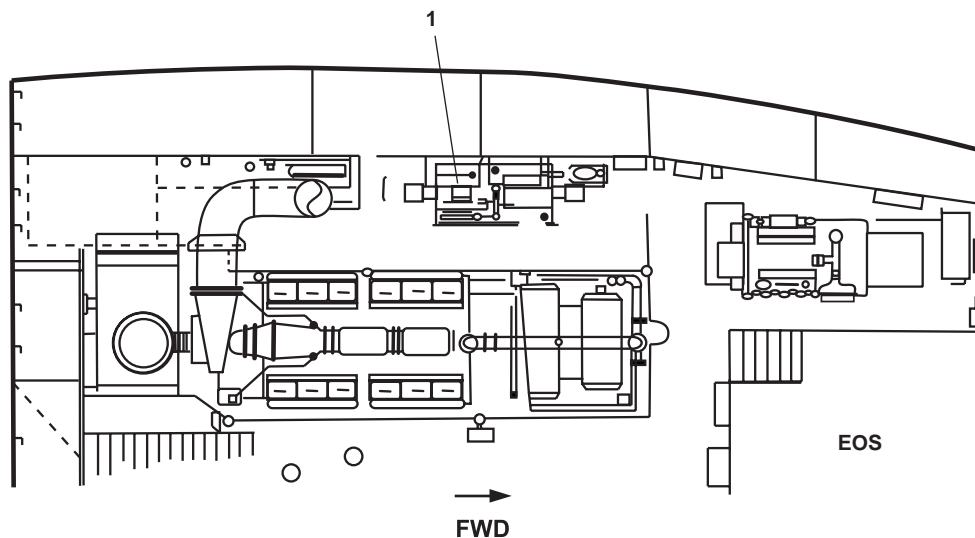

Figure 3. Deck Machinery and Hydraulic System Components, Engine Room
1. Central Hydraulic Power Unit (figure 3, item 1). Two electric motor-driven pumps with associated filters, hoses, piping, and valves are mounted on a single hydraulic reservoir. The unit provides the primary source of power for the capstan, deck crane, and anchor windlass. The unit may also be used to power the towing machines in the event of towing machine hydraulic failure.